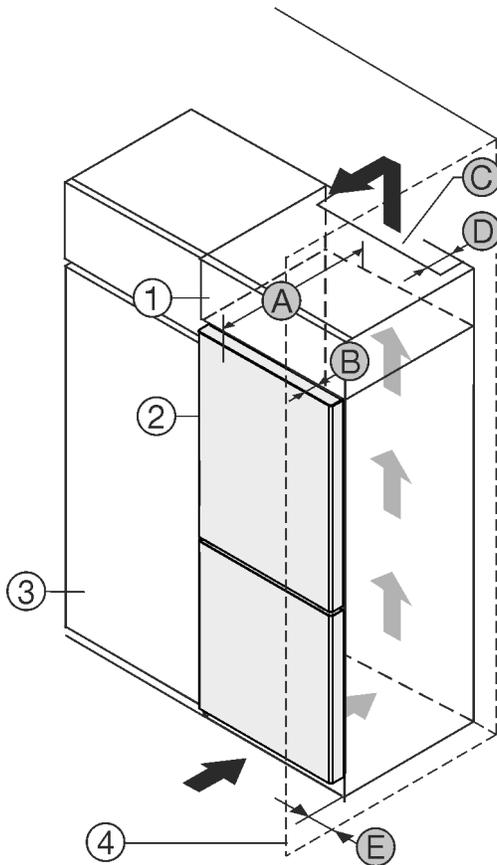

Fig. 1
- (1)** Top cupboard*
- (2)** Appliance*
- (3)** Kitchen cabinet*
- (4)** Wall*
- (A)** Appliance depth*
- (B)** Door depth*
- (C)** Ventilation cross-section*
- (D)** Distance to the rear of the appliance*
- (E)** Distance to the side of the appliance*
Set up the appliance directly next to the kitchen cabinet Fig. 1 (3).*
There must be a ventilation shaft at the depth Fig. 1 (D) of the back of the top cupboard over the entire width of the top cupboard.*
The cross section of the ventilation gap Fig. 1 (C) must be maintained below the ceiling.*
If the appliance is installed with the hinges next to a wall Fig. 1 (4), the distance between the appliance and the wall must be at least 13 mm (0.51 in).*
If the appliance is installed with the hinges next to a wall Fig. 1 (4), the distance between the appliance and the wall must be at least 20 mm (0.79 in).*
In order to be able to fully open the door, the appliance must protrude by the depth Fig. 1 (B) of the door from the front of the kitchen cabinet. Regardless of the depth of the kitchen cabinets Fig. 1 (3) and use of wall spaces, the appliance can protrude further.*